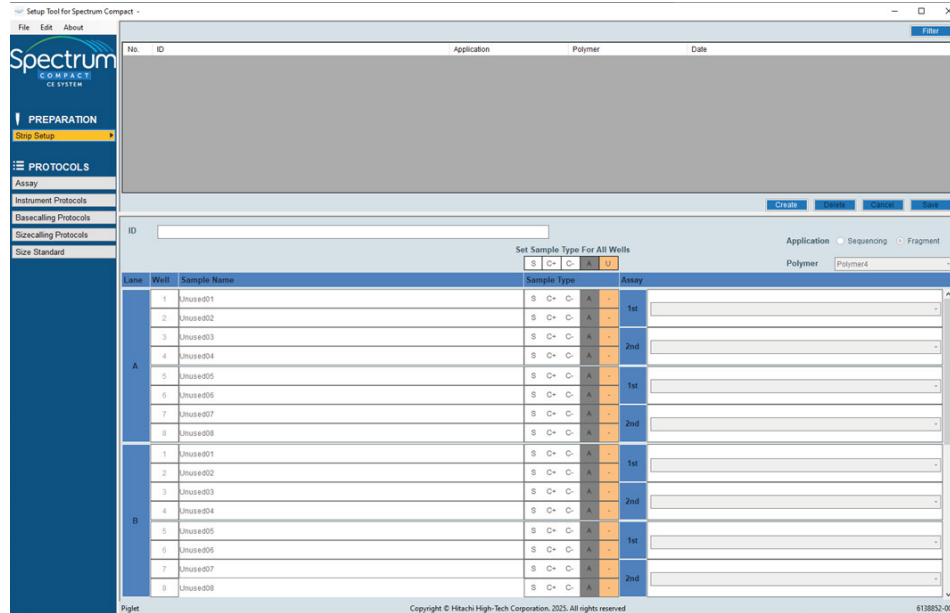

Figure 190. Default view.
5. Select the relevant Protocols file and select **Open**. The tool is now ready for use. By default, the software opens to the Strip Setup window (Figure 190). The menu bar on the left side of the window allows you to navigate to the function you would like to use.
5. Alternatively, you can set a sample type for all 32 samples using the buttons above each column using the buttons available under “Set Sample Type For All Wells” (Figure 190).